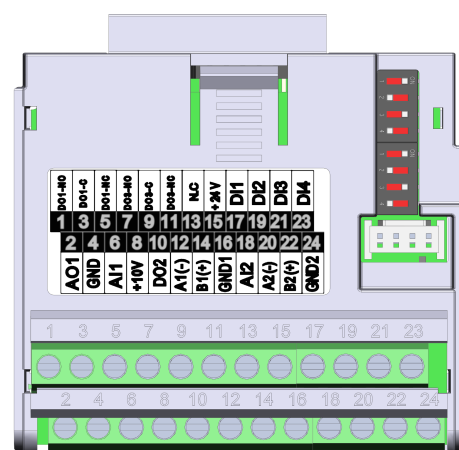

Figure 20.4: Plug-in module CFW500-CRS485
The CFW500-CRS485 plug-in module has Serial (1) interface through RS-485 port at terminals 12 (A-) and 14 (B+), as well as the Serial (2) interface through another RS-485 port at terminals 20 (A2+) and 22 (B2+), see Figure 20.4 on page 20-1. See also, GND1 on terminal 16 and GND2 on terminal 24 are isolated each other and from GND on terminal 16.